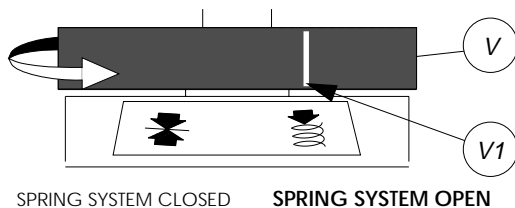

Fig. 14
turn the ring nut (V) anti-clockwise so that reference notch (V1) is aligned with the spring mark (Fig.14); a click will indicate that the spring system is activated.